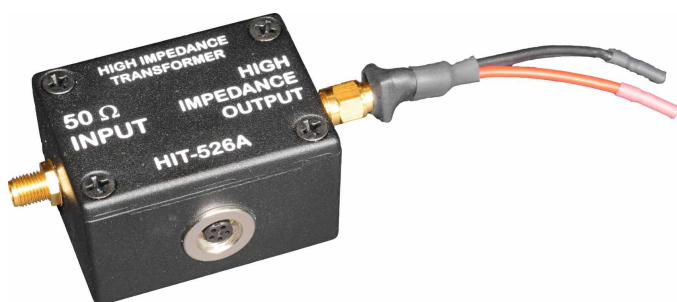
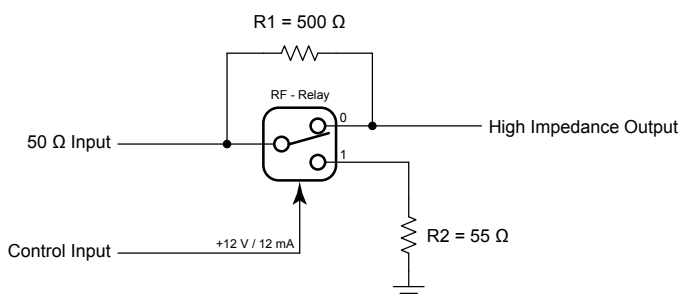

Figure 1: HIT-526A with SMA-to-cable interface (optional) at high impedance output.
Figure 2: HIT-526A schematic diagram.
The HIT-526A (Fig. 1) can be used for 526 Ω high impedance TLP measurements. If the RF switch (Fig. 2) is in the position 0 the resistor R1 is short circuit, R2 is not used, and the HIT-526A works as a through connection. If the RF switch is in the position 1 the pulse input is matched to 50 Ω with R1 and R2 plus DUT connected in parallel to ground. This mode is used for 526 Ω high impedance TLP measurements.
If the SMA-to-cable interface is used (Fig. 1), the bandwidth is limited and rise times  $\geq 5$  ns should be used in the TLP setup in order to avoid ringing due to the parasitic inductance. If a SMA 50 Ω line is connected to the high impedance output, the typical capacitive load of 1 pF/10 mm of the transmission line together with the 526 Ω output impedance will limit the rise time of the pulse.
3. Keep cable length from the current sensor output to the DUT as short as possible since a 50 Ω transmission line adds 1 pF per 10 mm, which may deteriorate the measurement result. For PCB or packaged device measurements the short cables (Fig. 1) can be used for low parasitics interconnections.